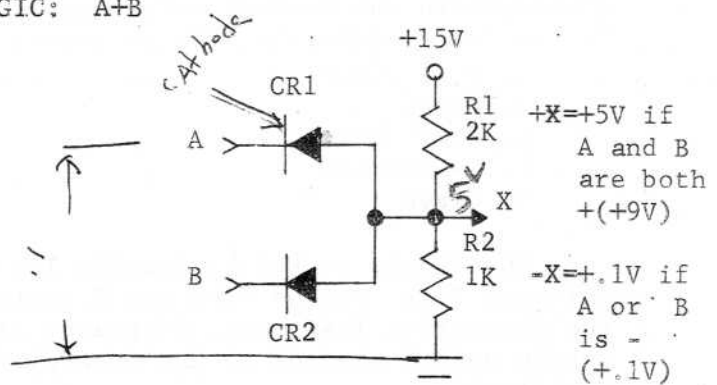

Figure 3B
As seen in the figure, there are two inputs to this circuit, A and B. There is an output from the OR gate if either input A or B (or both) is negative. The inputs to this gate are +9V (positive signal) or +.1V (Negative signal). The OR gate is shown schematically in Figure 3B. The gate consists of two diodes, CR1 and CR2, and a voltage divider network, R1 and R2. The voltage divider furnishes the gate reference potential, which is +5 volts in the example shown. It can be seen that if either A or B is negative (i.e., +.1V) Diode CR1 or CR2 will conduct, causing the output (X) to go to the negative input level (+.1 volt). The output (X), which is taken across resistor R2, is then considered to be negative. The only time that there will NOT be a negative output (+.1 volt) appearing across R2 is when both inputs are positive (+9 volts). An OR gate is represented by the symbol +; therefore, the logic in Figure 3 can be written  $A+B$ , which is read A or B.